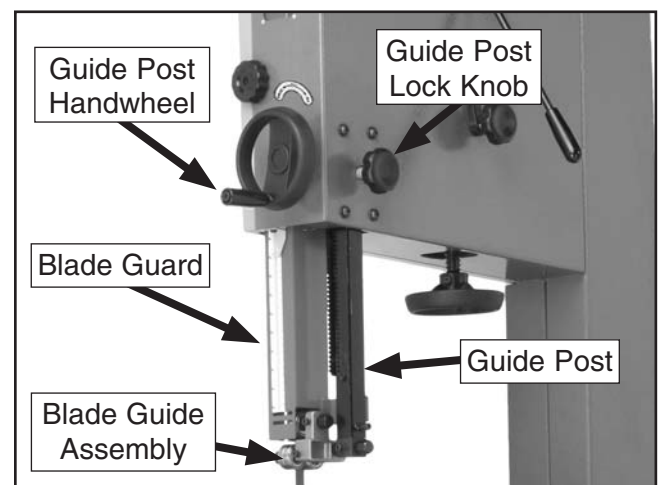

Figure 72. Guide post controls.
The guide post, shown in **Figure 72**, connects the upper blade guide assembly to the bandsaw. The guidepost allows the blade guide assembly to move up or down to be as close to the workpiece as possible. In order to cut accurately and safely, the bottom of the blade guide assembly must be no more than 1" above the workpiece at all times—this positioning provides the greatest blade support and minimizes the amount of moving blade exposed to the operator.
3. Loosen the guide post lock knob shown in **Figure 72**.